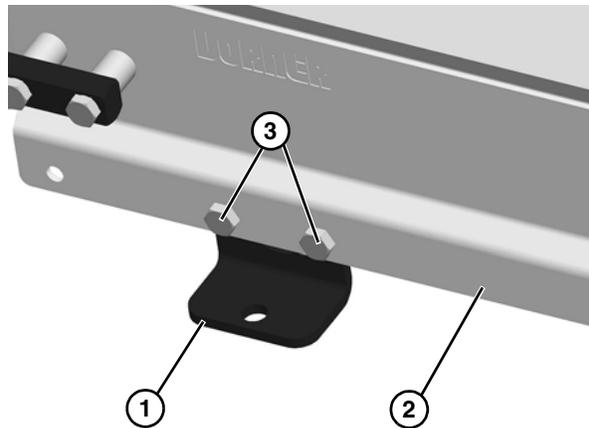

Figure 12
<p>Failure to secure screws (Figure 12, item 3) may cause conveyor sections to drop down causing severe injury.</p> <p>TIGHTEN SCREWS (Figure 12, item 3) AFTER ADJUSTMENT.</p>
- Attach the horizontal ceiling support (**Figure 12, item 1**) to the conveyor (**Figure 12, item 2**) and tighten the two bolts (**Figure 12, item 3**).